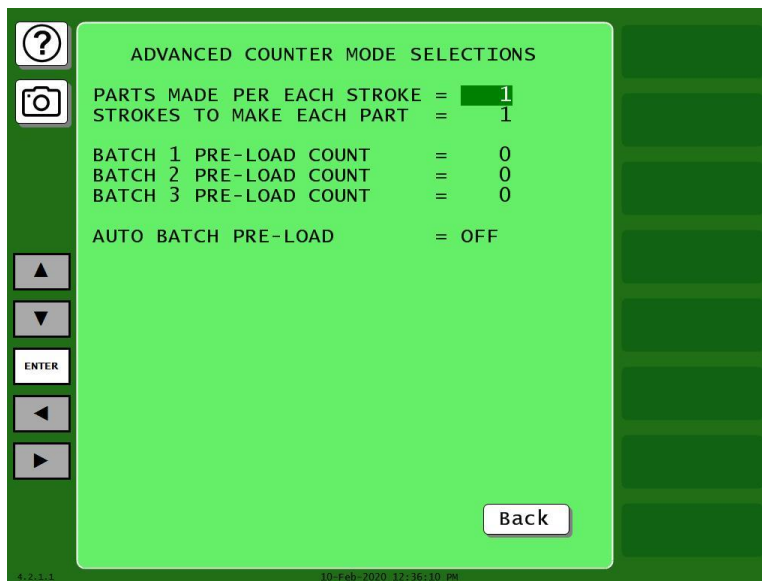

Figure 5-16. Advanced Counter Mode Selections Screen
1. On the Counter Mode Selections screen, press ADVANCED MODES. The Advanced Counter Mode Selections screen, Figure 5-16, displays.